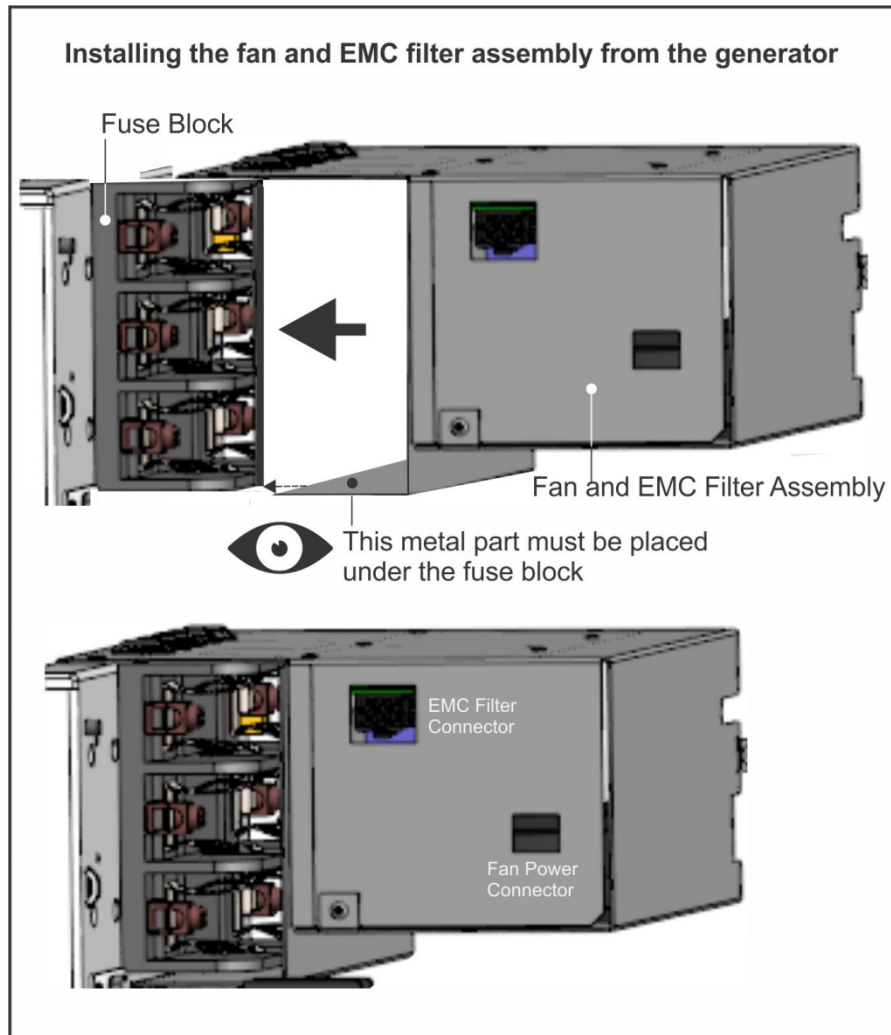

Figure 2-11D: Install the fan and EMC filter assembly
8. Refer to Figure 2-11D and gently reinstall the fan and EMC filter assembly to the generator. **Note:** There are cables and wires underneath the fuse block. When reinstalling the assembly, do not pinch cables or wires.